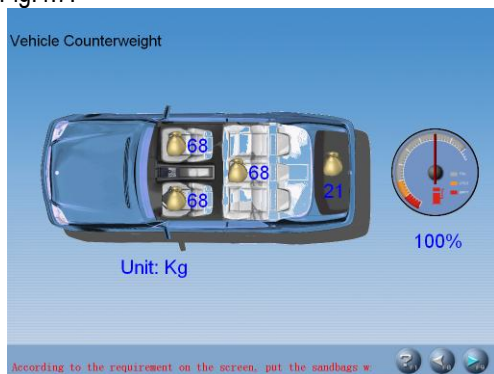

Fig.4.7
2. When some special vehicle models (such as BMW 3 series) are selected, the screen will pop up an interface of [Vehicle Counterweight] as shown in Fig.4.7.